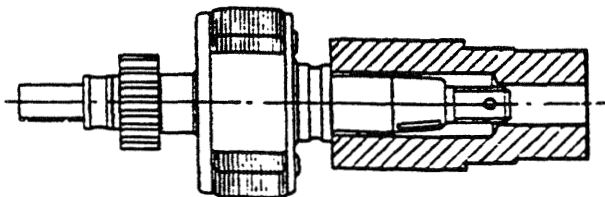

Figure 903. Installing Drive End Bearing Inner Race
- C. Position original shim washers (71) [or shim washers totaling .012 in. thickness if rotor (54) or magneto housing (50) has been replaced] on drive end of magnet shaft. Using large end of the 11-6924-1 Pressing Tool, press inner race of the new bearing (70) onto shaft, lettered side toward pressing tool. See Figure 903.